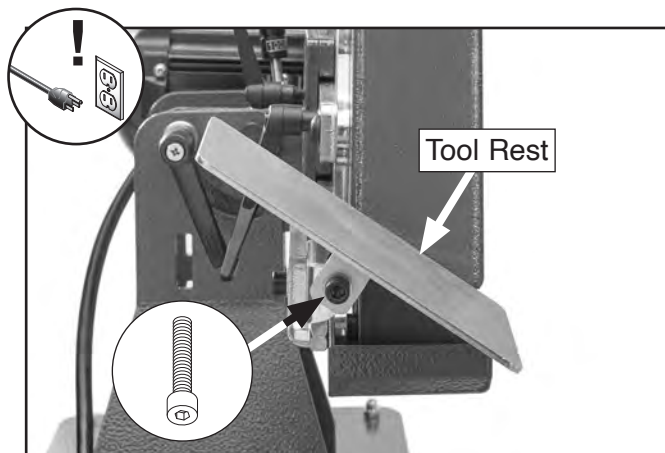

Figure 33. Location of tool rest angle cap screw.
2. Loosen cap screw shown in **Figure 33**, adjust tool rest to desired angle, then tighten cap screw to secure (see **Figure 33**).